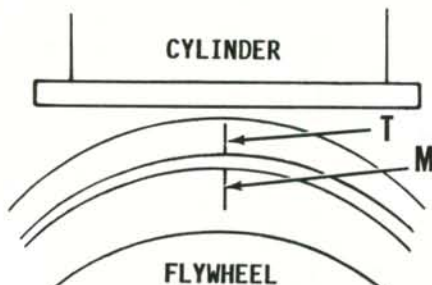

Fig. JS1-19—Mark (M) on flywheel represents 18 degrees BTDC. When engine is operated at 6000 rpm, flywheel mark (M) should align with crankcase mark (T).
Note flywheel timing mark (M—Fig. JS1-19) and crankcase timing mark (T).
Connect a tachometer to engine. Start engine, then turn on supplemental water supply. Adjust water pressure to where a small amount of water is being discharged out bypass outlet on side of hull. Accelerate engine to 6000 rpm. Use power timing light and check alignment of flywheel timing mark (M—Fig. JS1-19) with crankcase timing mark (T). Allow engine to return to idle position, then turn off supplemental water supply and stop engine.